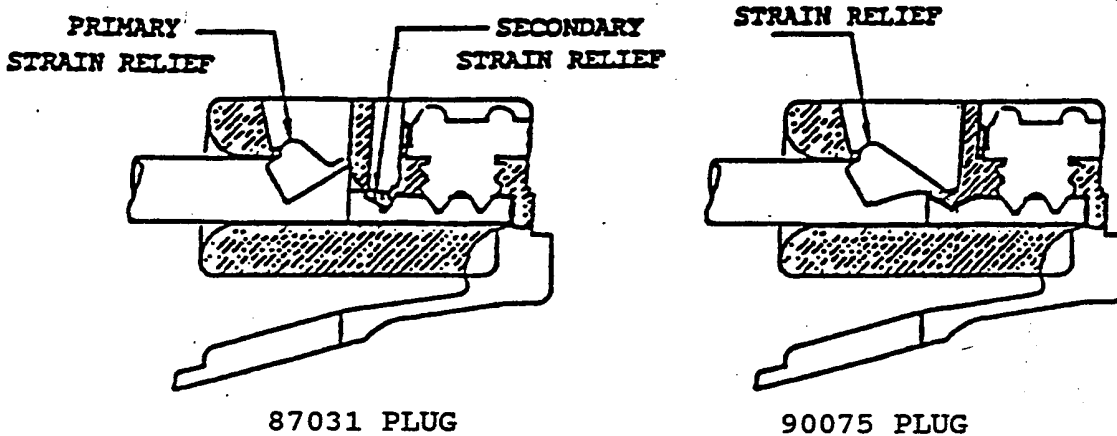

FIG. 1
13. Load a prepared cable into the plug located below the punches and push all the way forward. (see cable preparation instructions) Depress the foot switch on the press and remove the completed plug at the right end of the die guard. Inspect for proper termination depth and strain relief latching. (see fig.1)